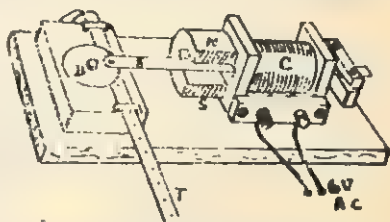

Fig. 8.4. Ticker-Tape-Vibrator.
**Description of ticker tape vibrator.** This instrument consists of a disc  $D$  of carbon paper which can rotate due to the moving tape  $T$  under it as shown in Fig. 8.4. There is an iron strip  $S$  just above the carbon disc which has a small hammer attached to it so that dots may be put on the tape when the strip vibrates. The strip vibrates when an alternating current (of 50 Hz) is passed through the electromagnet coil  $C$ . The detailed construction of the vibrator is shown in the Fig. 8.4.  $N, S$  represents a permanent horse-shoe magnet.